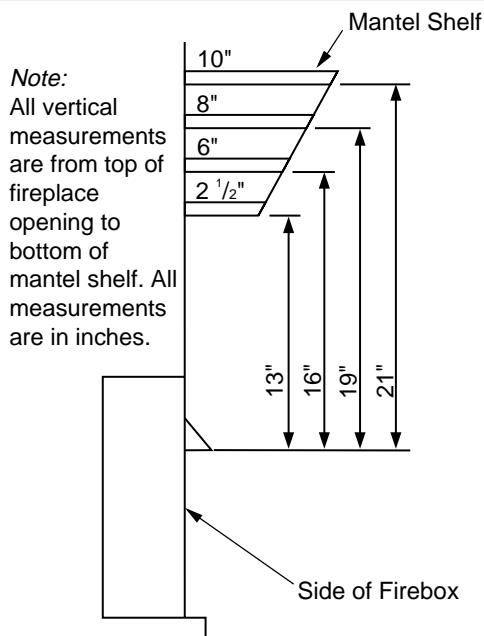

Figure 11 - Minimum Mantel Clearances for Built-In Installation
- For mantel clearances, see Figure 11 on page 11.
Built-in installation of this fireplace involves installing fireplace into a framed-in enclosure. This makes the front of fireplace flush with wall. An optional brass trim kit accessory is available (see *Accessories*, pages 38 and 39). Brass trim will extend past sides of fireplace approximately 1/2 inch. This will cover the rough edges of the wall opening. If installing a built-in mantel above the fireplace, you must follow the clearances shown in Figure 11, page 11. Follow the instructions below to install the fireplace in this manner.